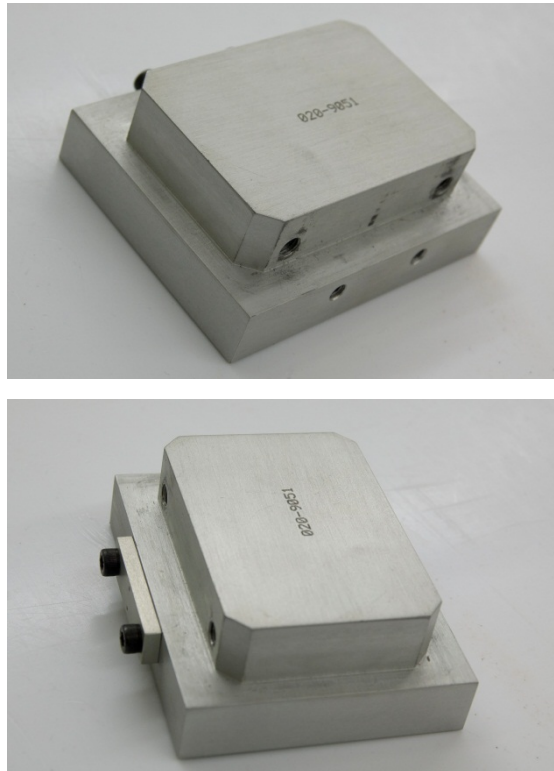
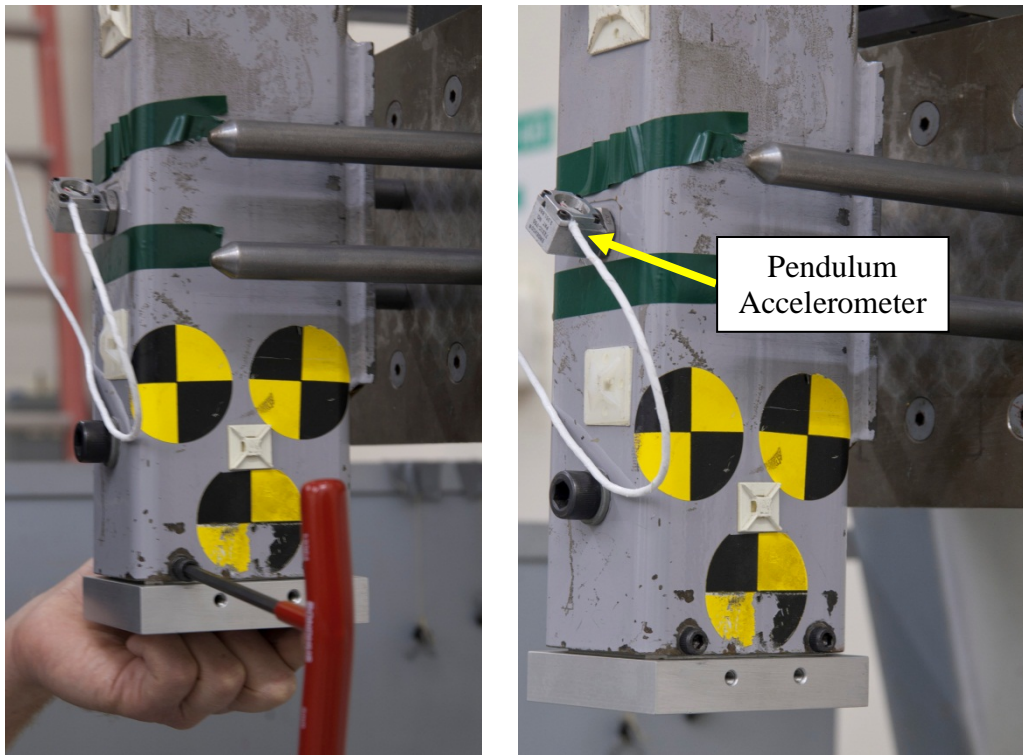

Figure 35. Interface plate for test pendulum
Figure 36. Install pendulum interface plate and pendulum accelerometer
- Install the interface plate to the bottom of the pendulum using four (4) M6 x 15 SHCS (Figure 35 and Figure 36).